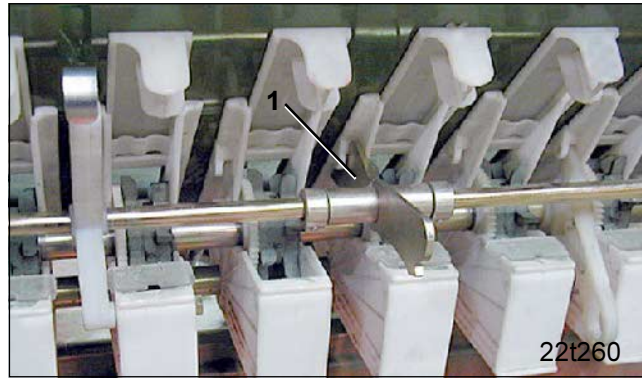

Fig. 10.20
- A bracket (Fig. 10.20/1) which axially secures the counter shaft catches into a gap on the metering wheel housing. This bracket is pulled out of the gap when folding down the counter shaft.